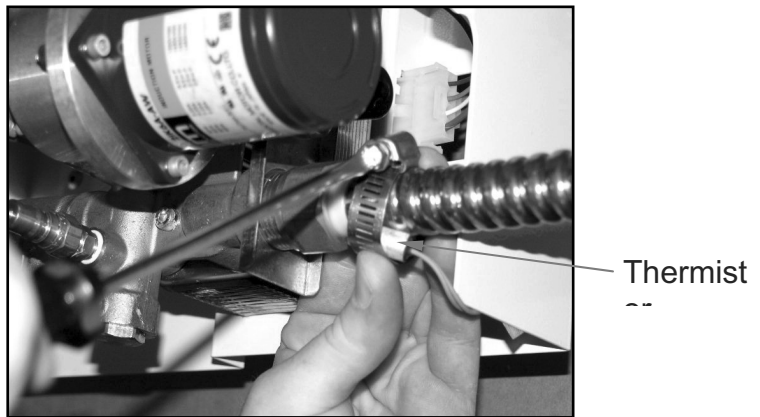

Fig.4.2.2 – Thermistor clamped to corrugated copper pipe close to lower manifold.
8. Storage tank temperature sensor, or thermistor, is taped to inside of Energy Station housing at lower right and connected to Controller by two blue wires. Slide hose-clamp over corrugated copper pipe and fasten thermistor to smooth surface of corrugated pipe, close to manifold (Figs.4.2.2). Do not over-tighten as thermistor may dent and damage corrugated pipe.